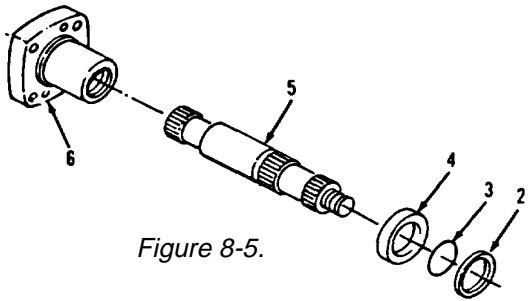

Figure 8-5.
2. Remove snap rings (2 and 3), bearing (4) and shaft (5) from housing (6, Figure 8-5).